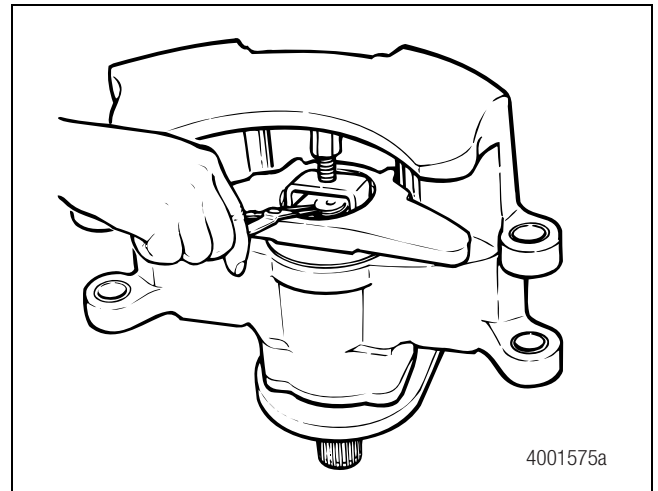

Figure 5.21
15. Use 45-degree snap ring pliers to install the snap ring. Figure 5.21.